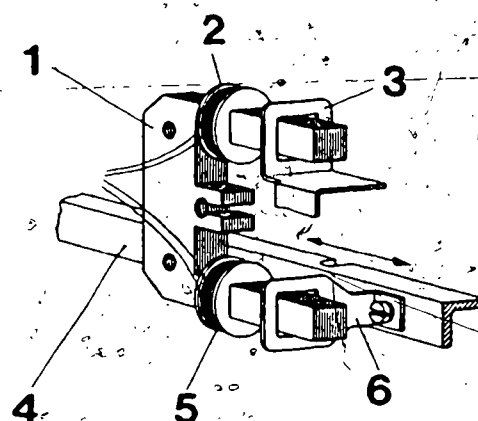

Fig. 1
The movable short-circuiting ring for measuring (6) is fastened to the control rod (4) and moves with this along, but without touching, the lower leg of the iron core which is fastened to the housing (1, Fig. 1).